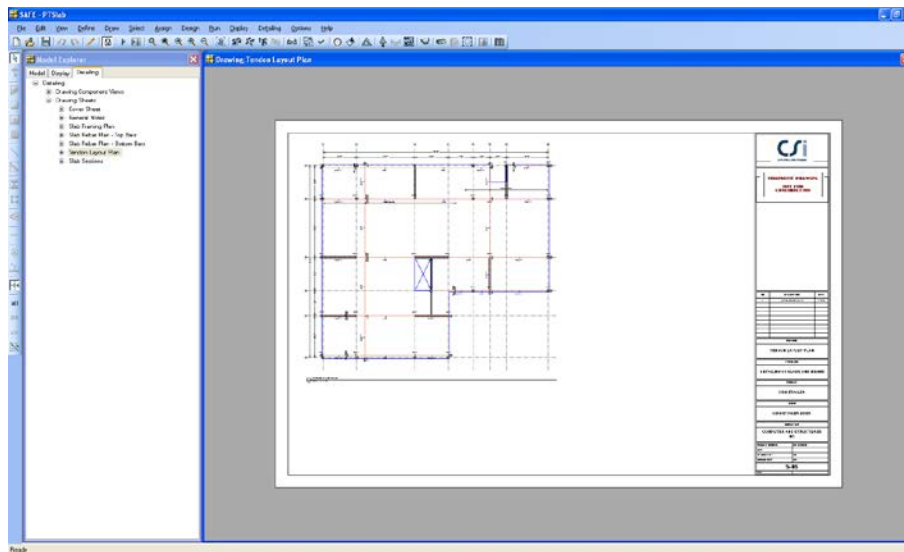

Figure 95 Tendon Layout Plan
- O. Click the **OK** button to leave the Display Detailing Item form and display the selected drawing shown in Figure 95.